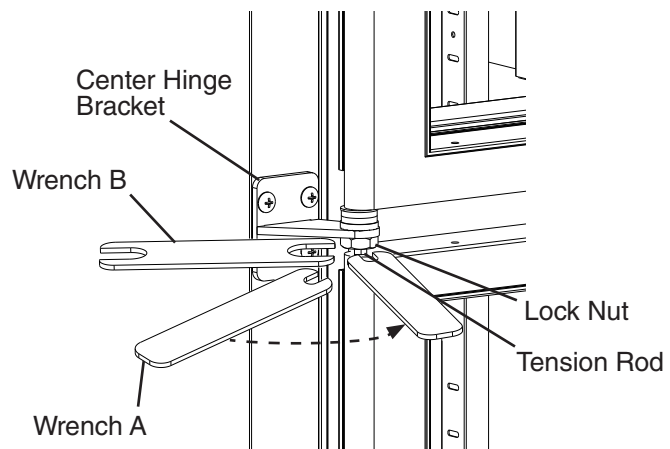

Fig. 64
- 25) Once loose, turn wrench B counter-clockwise to add tension on the tension rod. Without releasing the pressure on wrench B and the tension rod, use wrench A to tighten the lock nut. See Fig. 64.